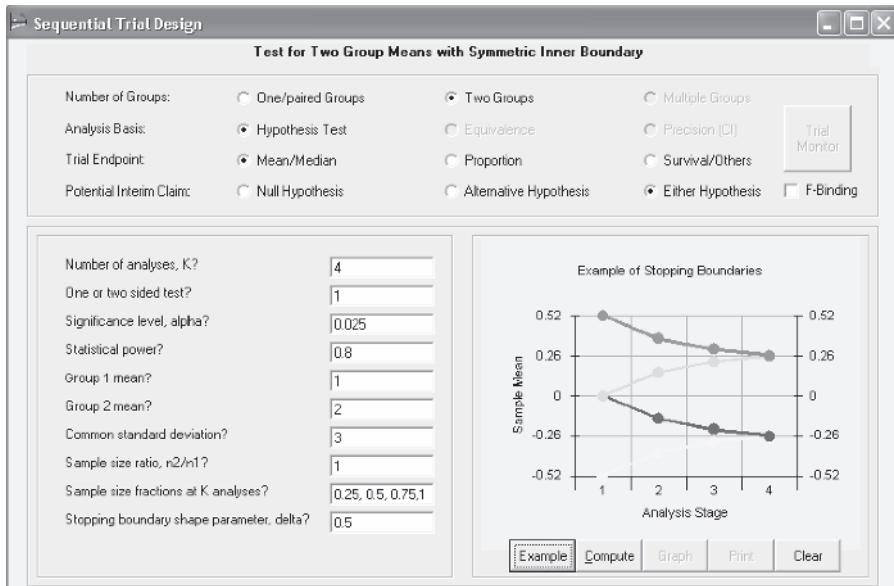

Figure 1.4 Group sequential design window.
9. Click to save the design specification or report (see Figure 1.4).